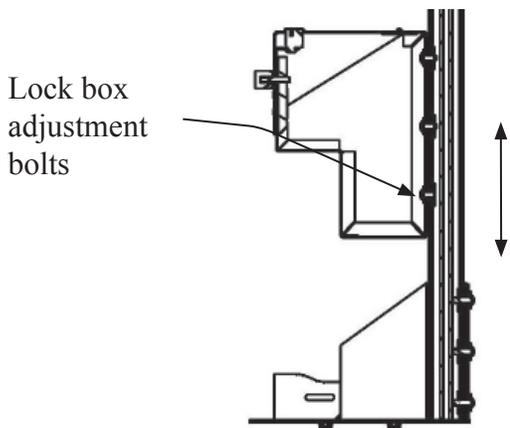

Fig. 5
- A. Open the lock box and loosen the bolts with a $7/16$ " socket and extension wrench to adjust the box up or down as needed. (Swivel attachment is required) Install supplied black felt over bolts when box position has been fixed. (See Fig. 5)